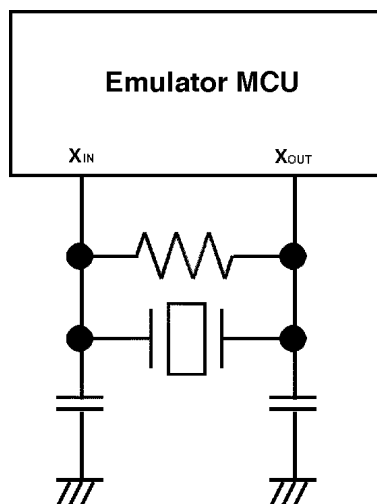

Figure 3.2 Circuit in which oscillation does not occur
- Make note of the fact that in the oscillator circuit shown in Figure 3.2 where a resonator is connected between the  $X_{IN}$  and  $X_{OUT}$  pins, oscillation does not occur because a flexible cable, buffer IC and other devices are used between the emulator MCU and the target system (same for  $X_{CIN}$ ).